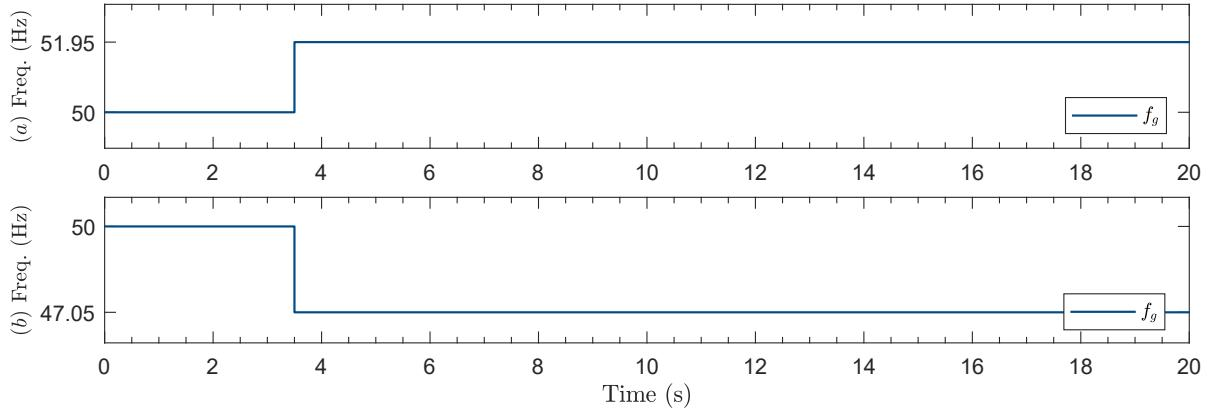

Fig. 8: Step changes of $+1.95$ Hz and -2.95 Hz in the frequency of the grid voltage.
- (a) **Test 2:** $\Delta f_g = +1.95$ Hz (from 50 Hz to 51.95 Hz). -See Fig. 8 (a).
- (b) **Test 3:** $\Delta f_g = -2.95$ Hz (from 50 Hz to 47.05 Hz). -See Fig. 8 (b).